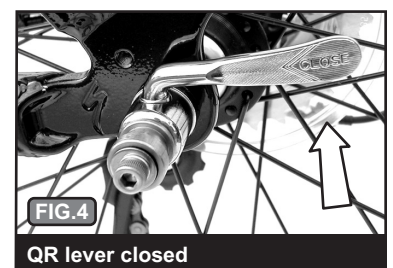

FIG. 4
6) Move the QR lever until "CLOSE" is visible on the lever, **Fig. 4**, and it is parallel to the frame.